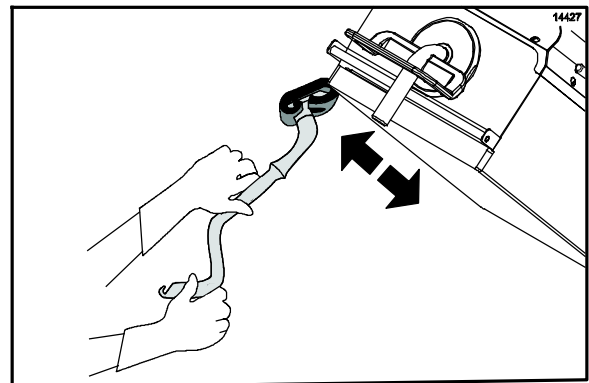

Figure 57
27. Scrub the outer edges of the right and left platens. (See Figure 57.)